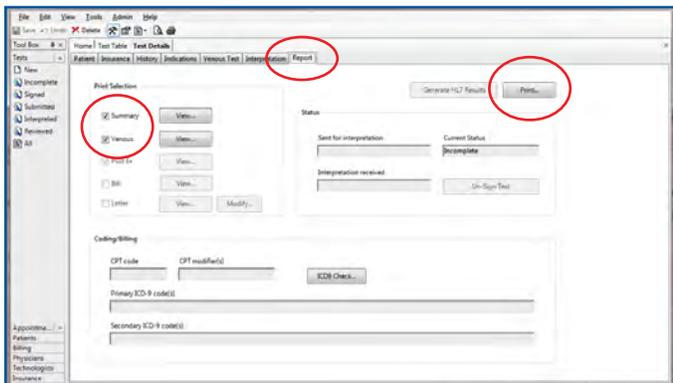

FIGURE 2.20 - Report Tab - Print Selection Checkboxes and “Print” Button
1. Click the Report tab. Be sure “Summary” and “Venous” boxes are checked, then choose “Print...” (Figure 2.20).